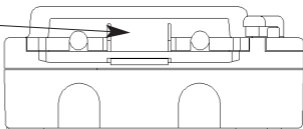

Fig 2
- The box is opened by depressing the tab on the front (see figure 2).
- The lid may be opened by depressing the tab on the front (see figure 2) after removing excess water from top surface.